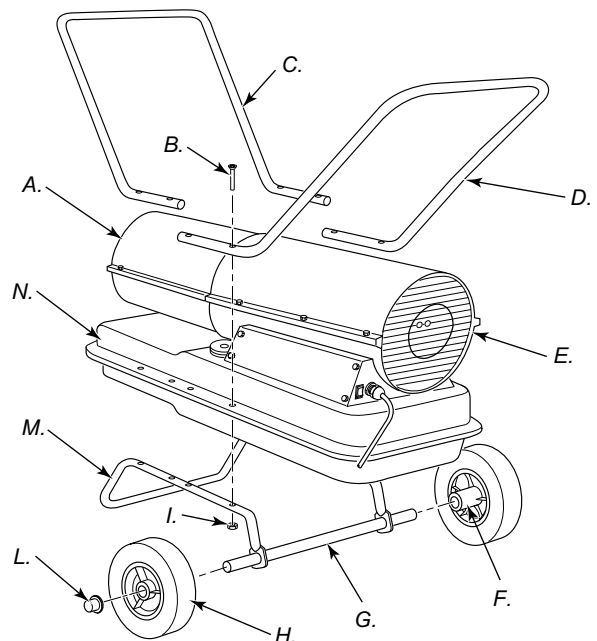

Figure 3 – Wheel and Handle Assembly.
1. Slide axle through wheel support frame. Install wheels on axle. **IMPORTANT:** When installing wheels, point extended hub of wheels toward wheel support frame (see Figure 3).